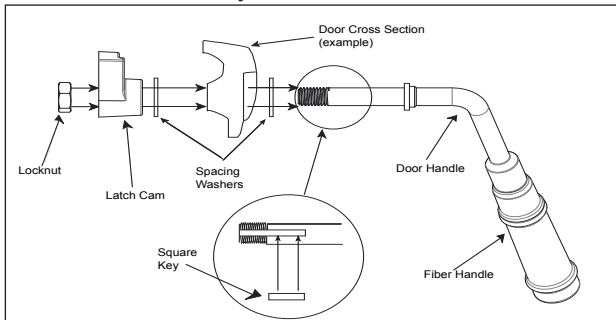

Figure 21.1
2. Install additional washer(s) as shown in **Figure 21.1**
6. Install fiber handle. **Figure 21.1**